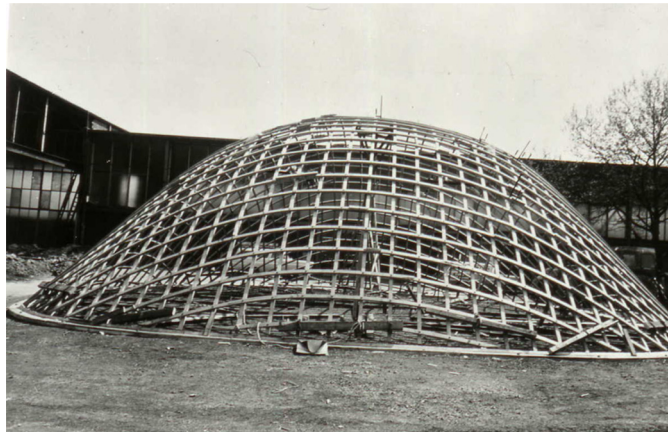

Fig. 1. Trial gridshell structure at Essen.
A trial structure was built for the Montreal tent which had a single mast and contained all the details such as cable cross clamps, connections to boundary cables and a trial eye loop at the mast head. This structure was re-erected at Stuttgart University and became Otto's research centre, The Institut für Leichte Flächentragwerke (IL), that continued with research and published much of his work which included investigations into natural forms as well as lightweight structures (Figs. 1–14).
In 1962 he built, with some students at Berkeley, a trial structure of a dome standing on four points using steel rods. Later that same year he made a trial timber structure at Essen on a 15 m × 15 m super-elliptical plan (Fig. 1). Two small auditoria were required within the Montreal Expo 67 tent and these were made using grid shell construction. The meshes were prefabricated in Germany and sent to Canada folded into bundles, where they were opened up and installed on site. The grids were clad with thin plywood sheets to form the enclosures.